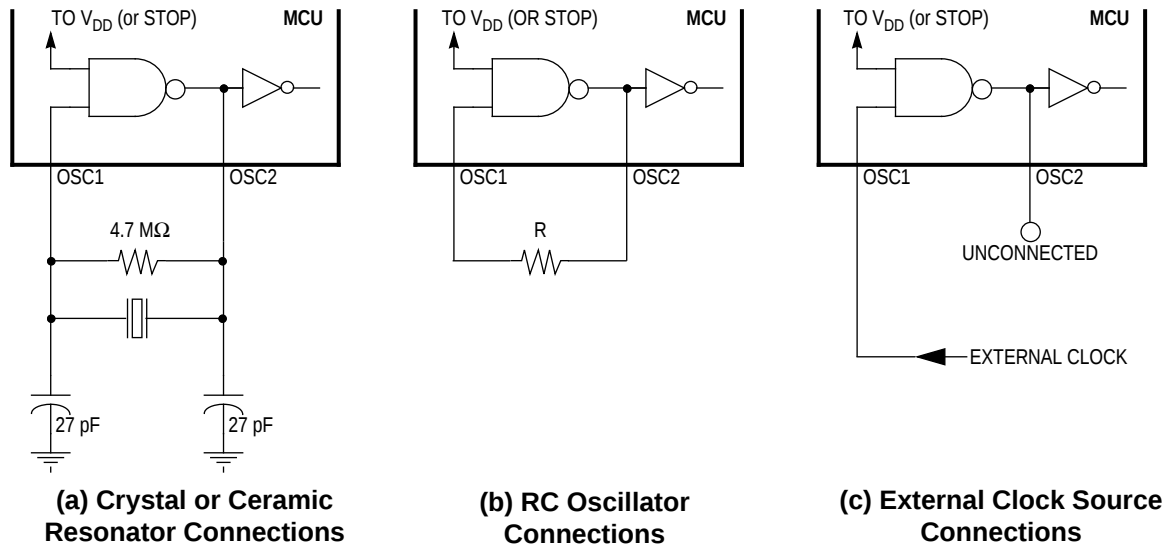
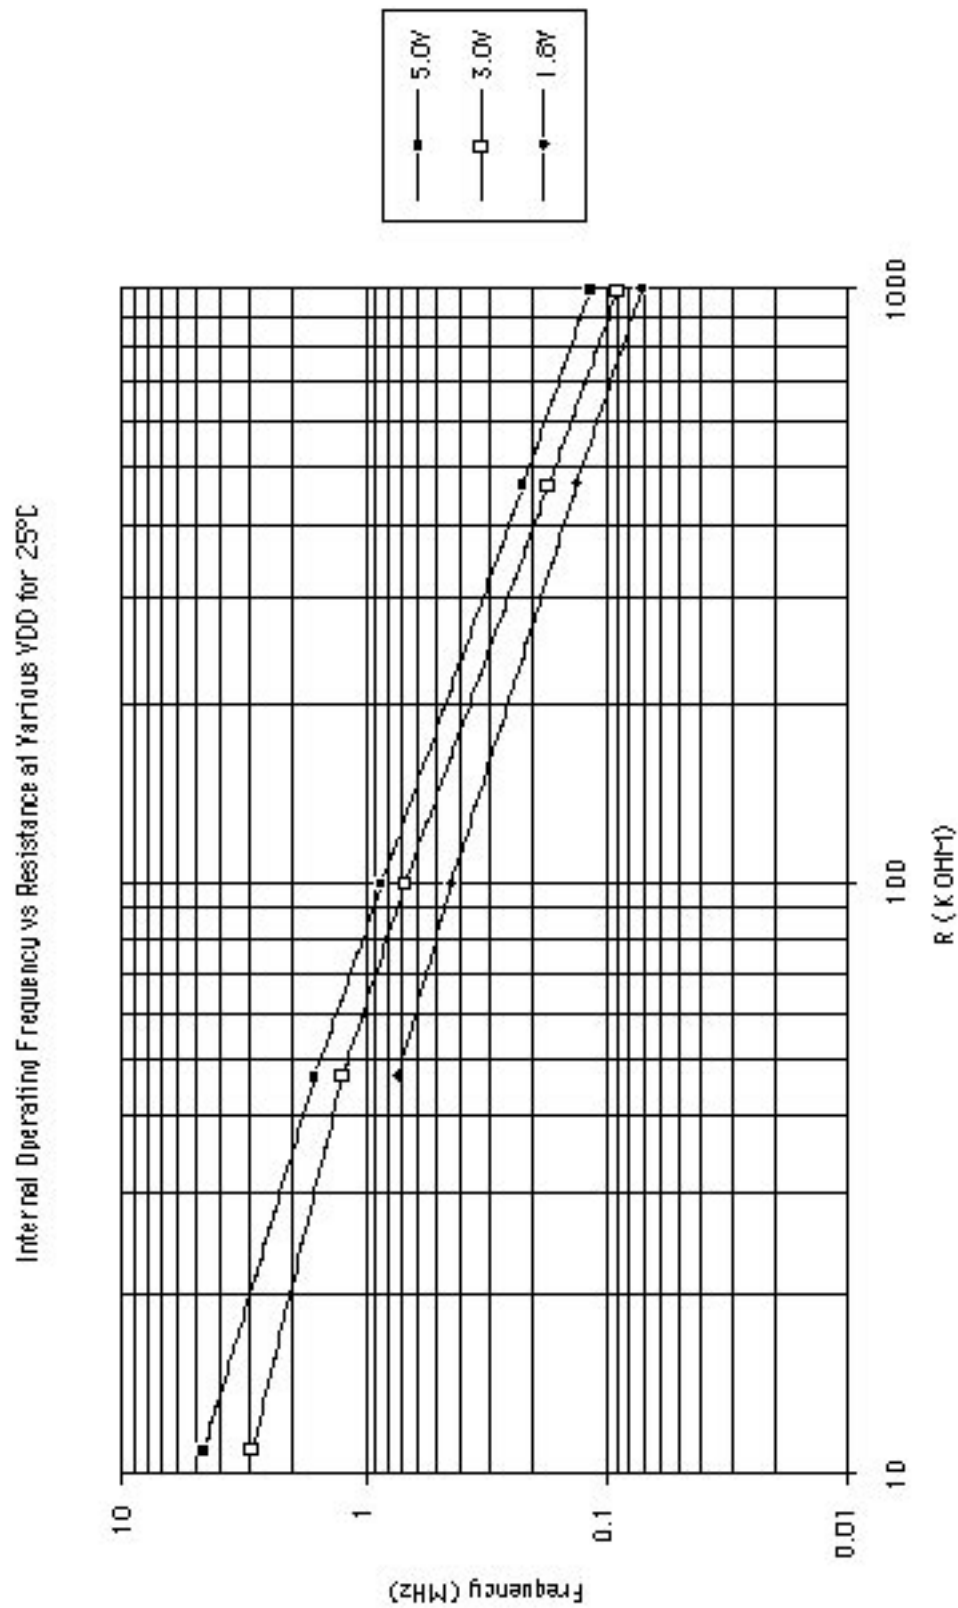

Figure 1-4. Oscillator Connections
Figure 1-5. Typical Frequency vs. Resistance for RC Oscillator Mask Option
1. A crystal, as shown in Figure 1-4(a).
2. A ceramic resonator, as shown in Figure 1-4(a).
3. An external resistor, as shown in Figure 1-4(b).
4. An external clock signal, as shown in Figure 1-4(c).
The circuit in Figure 1-4(a) shows a typical oscillator circuit for an AT-cut, parallel resonant crystal. Follow the crystal manufacturer's recommendations, as the crystal parameters determine the external component values required to provide maximum stability and reliable startup. The load capacitance values used in the oscillator circuit design should include all stray capacitances. Mount the crystal and components as closely as possible to the pins for startup stabilization and to minimize output distortion.
In cost-sensitive applications, use a ceramic resonator in place of a crystal. Use the circuit in Figure 1-4(a) for a ceramic resonator and follow the resonator manufacturer's recommendations, as the resonator parameters determine the external component values required for maximum stability and reliable starting. The load capacitance values used in the oscillator circuit design should include all stray capacitances. Mount the resonator and components as closely as possible to the pins for startup stabilization and to minimize output distortion.
The lowest cost oscillator uses the RC mask option and an external resistor. With this option, a resistor is connected to the oscillator pins, as shown in Figure 1-4(b). The relationship between R and f_{OP} is shown in Figure 1-5. Consult the factory for tolerance limits and design specifications.
An external clock from another CMOS-compatible device can be connected to the OSC1 input, with the OSC2 input not connected, as shown in Figure 1-4(c).